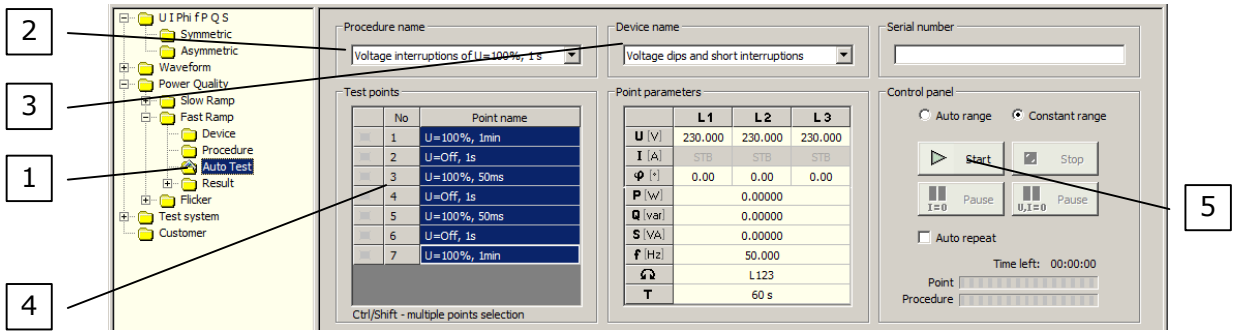

Fig.1.4. Autotest function with selected procedure points
In Fig.1.4, 1.5 and 1.6 are presented *Autotest* function with selected procedure points, procedure in progress and finished procedure.
- press the *Autotest* of the *Power Quality / Fast Ramp* function (pos.1 Fig.1.4),
- choose a correct *Procedure name* (pos.2 Fig.1.4) and *Device name* (pos.3 Fig.1.4),
- select all *Test points* (pos.4 Fig.1.4) and press the *Start* button (pos.5 Fig.1.4).